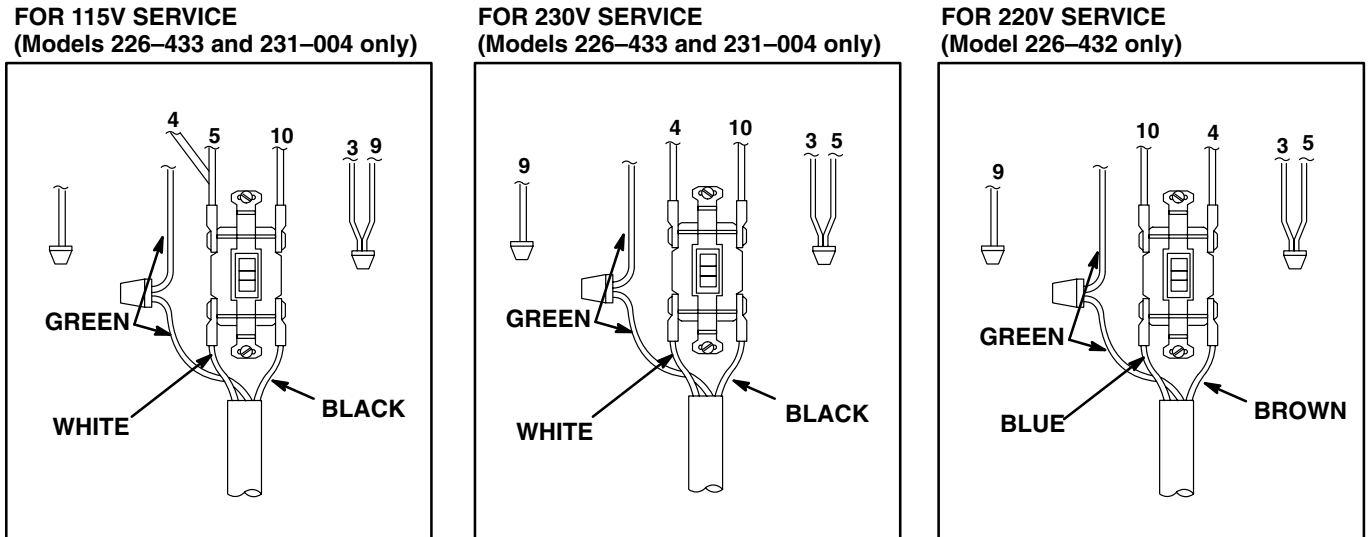

Fig 13
1. Remove the shield (19), the four screws (9) and washers (17) and the upper fan guard (82). Loosen the fan blade setscrew and remove the fan (26).
2. Remove the switch box cover (34) and disconnect the power cord wires. Do not scratch the smooth mating surfaces of the switch box (65) and cover (34).
3. Drive out the two spring pins (16) and then pull out the handle (75). Hook the switch box conduit with a hoist and lift the unit about 6 in. (150 mm) off the floor. Pull the cart frame (74) down out of the support mounting (44) and move it out of the way.
4. Remove the eight screws (4) and washers (5) holding the reservoir mounting (44). Raise the unit high enough for the reservoir (66) to clear. Pull the reservoir down off the unit and pour out the hydraulic fluid.
5. Carefully lower the unit and tilt it back until the arms of the support mounting (44) are resting on the floor.
6. Put the cart handle (75) through the arms. Hold the hook on the switch box (65) as you lower the unit to make sure it doesn't slip off.
7. Remove the four electric motor mounting screws (7 – see page 20), hold the motor (63) by the shaft and switch box (65), and then rock it from side to side to free it from the support mounting. Carefully pull it out of the cooling coils (46).
8. Screw the switch box (65) and nipple (11 – see page 20) out of the motor. Take the coupling off the motor shaft and install it on the new motor. When installing the nipple and switch box, engage the threads at least five full turns.
9. Carefully slide the new motor through the cooling coils (46), forcing it into the support mounting, and tightly install the mounting screws.
10. Set the gap between the two coupling halves at 0.31 in. (0.8 mm), and then tighten the coupling setscrew securely. See Fig 13, page 19.
11. Clean the reservoir (66) of sediment and reassemble the unit using a new gasket (47). Fill the hydraulic fluid reservoir through the fill hole filter (55).
Electric motor wiring diagram See Fig 13.